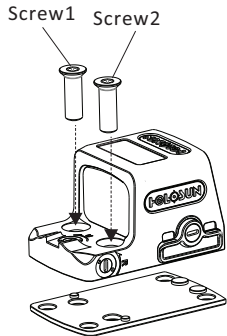

Fig 4-2
2. EPS Carry: To use the included RMSC adapter plate, first place the adapter plate onto the slide in the proper orientation, then attach the sight to the adapter plate/slide using the provided screws to pass through the holes of the sight and adapter plate. Figure 4-2